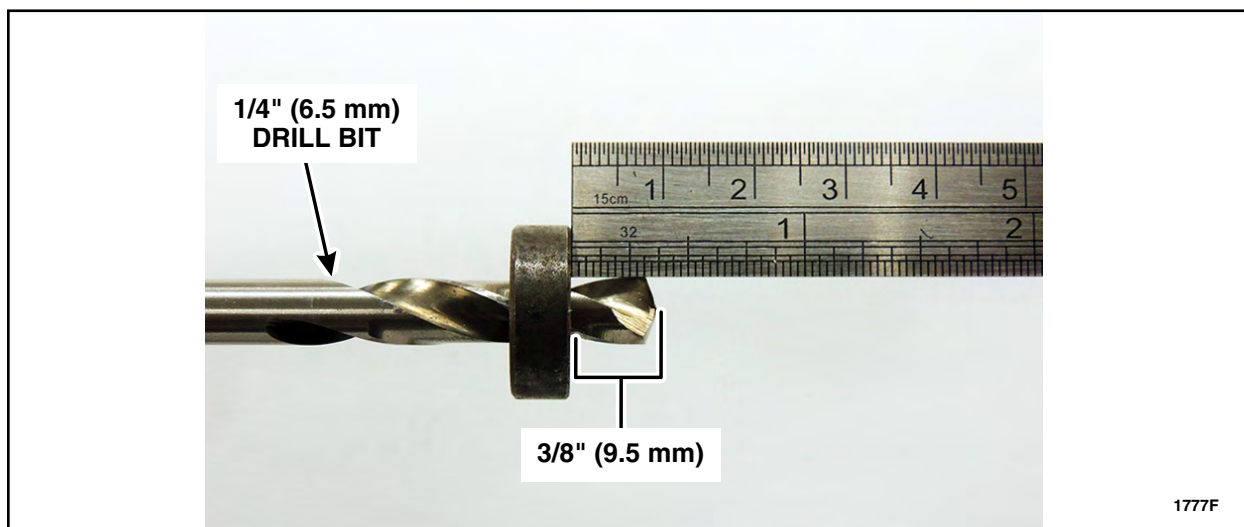

FIGURE 3
4. Using a 1/4" (6.5 mm) drill bit, install a drill stop set at a depth of 3/8" (9.5 mm). See Figure 3.